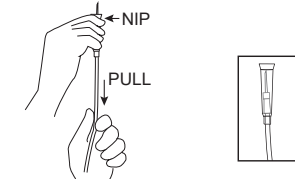

Figure 4: Covering the needle with the NIP
17. Immediately after you withdraw the needle from the donor's arm, gently pull on the tubing behind the NIP to cover the needle with the NIP. Ensure that the needle locks securely in place (see Figure 4).